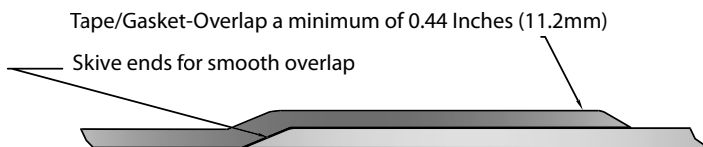

Figure 11
Start with the leading end of the gasket tape and cut the end at 45 degrees per Figure 11. This initial step is required to insure a smooth transition of the tape when the tape is overlapped per section 4.5.4.4 (b) below. Also, cut the trailing end of the tape at 45 degrees after it is overlapped per section 4.5.4.4 (b) below.
- (b) After the gasket tape has been placed around the entire circumference, overlap the starting end of the end of the tape by a minimum of 0.44" (11.2mm). See Figure 11. Be sure to smooth the tape at the overlap transition in order to get a good seal. No air gaps or bubbles should be present.